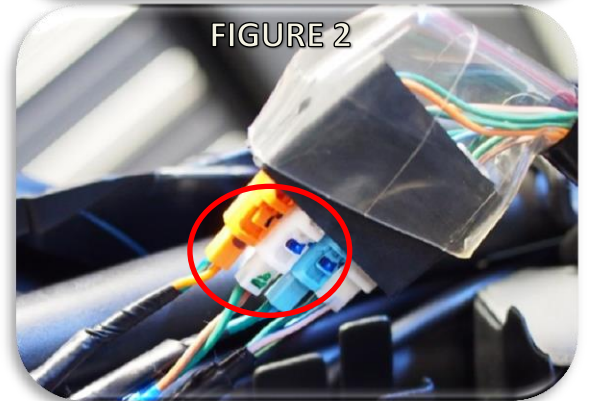

FIGURE 2
3. Pull the electrical connector block up off its plastic tab and separate the black rubber boot (FIGURE 2). Disconnect the orange, white, and blue 2-pin connectors for the turn signals and license plate light. A small flathead screwdriver is useful to gently lift the locking tab on the connectors.